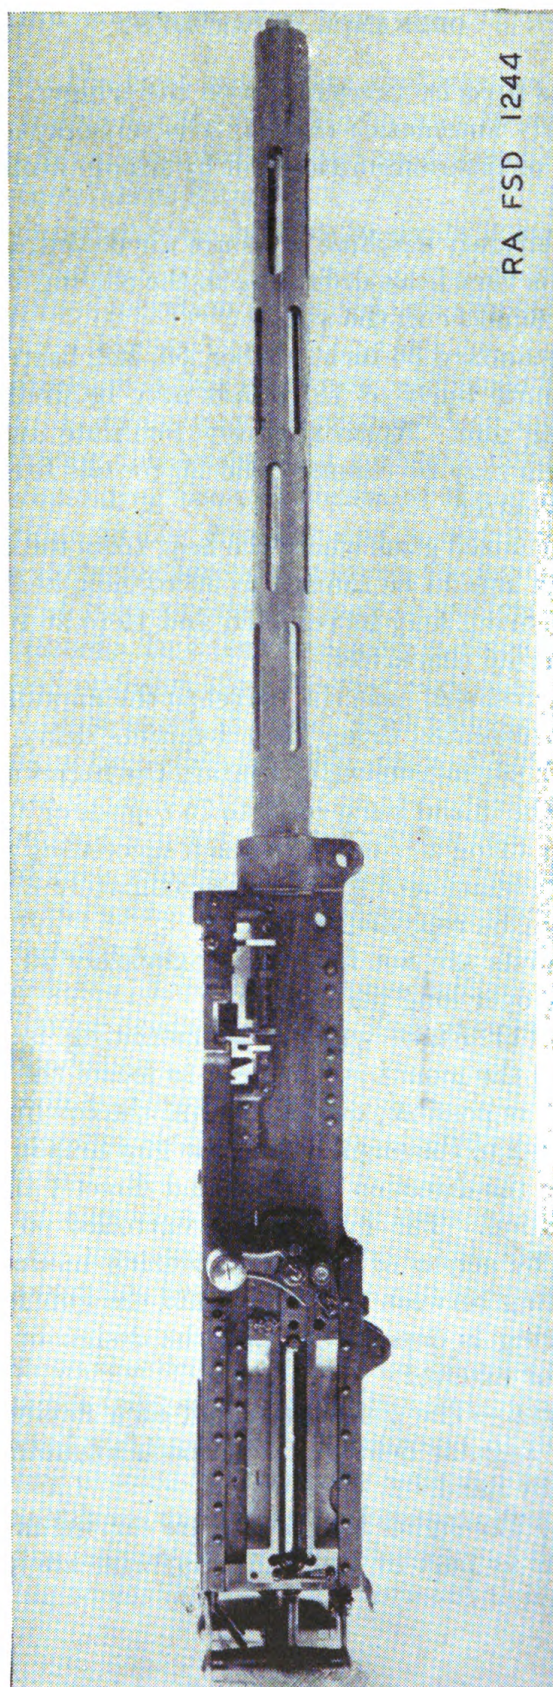

FIGURE 2.—Browning machine gun, caliber .50, M2, aircraft, flexible.
(2) *Flexible gun.*—The flexible gun (fig. 2) is installed in the fuselage of the airplane and is provided with a retracting slide located on the right side of the gun. The retracting slide is provided for retraction of the breech mechanism by hand and for use in loading, unloading, and reduction of stoppages in firing. It is connected with the bolt by means of the retracting slide bolt stud. The retracting slide handle remains stationary and in a forward position while the gun is firing, thus eliminating all moving parts outside of the receiver.